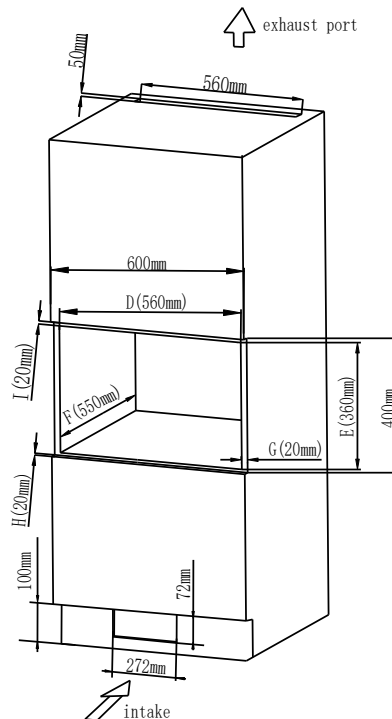

Fig.5
- Product size: (H) 385 x (W) 595 x (D) 377 (mm)
- Opening size: (D)560±2 x (E)360±2 x (F)550±2 (mm) as shown in Fig.5 “D”, “E”, “F”.